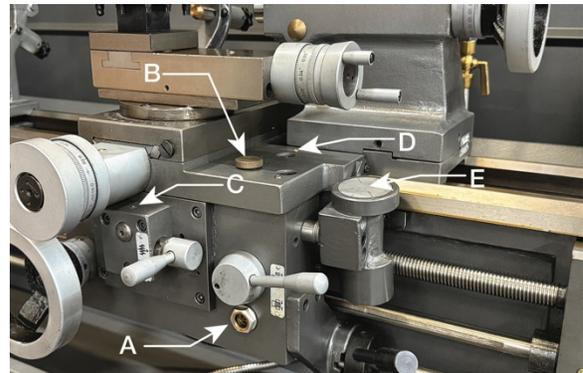

Figure 8-4
5. **Apron** - Oil must be up to indicator mark in oil level sight glass (A, Figure 8-4). Top off with Mobil DTE® Oil Heavy Medium. Fill by removing oil filling plug (B, Figure 8-4). Drain oil by removing drain plug located on the
6. **Feed Axis Selector** - Lubricate ball oiler (C, Figure 8-4) once daily with Mobil DTE® Oil Heavy Medium.
7. **Carriage** - Lubricate ball oilers (D, Figure 8-4) once daily with Mobil DTE® Oil Heavy Medium.
8. **Threading Dial Indicator** - Lubricate ball oiler (E, Figure 8-4) once daily with Mobil DTE® Oil Heavy Medium.